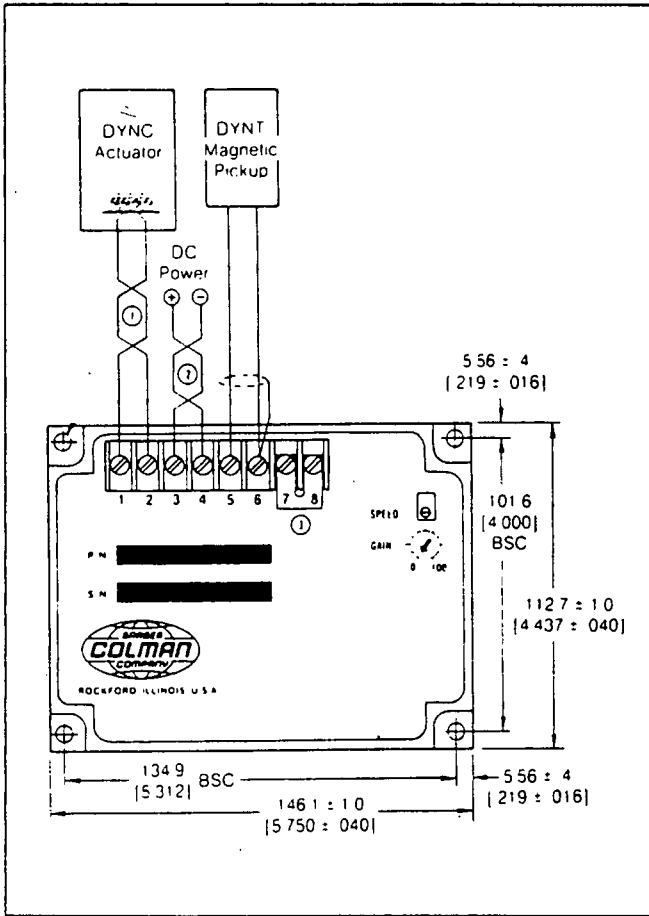
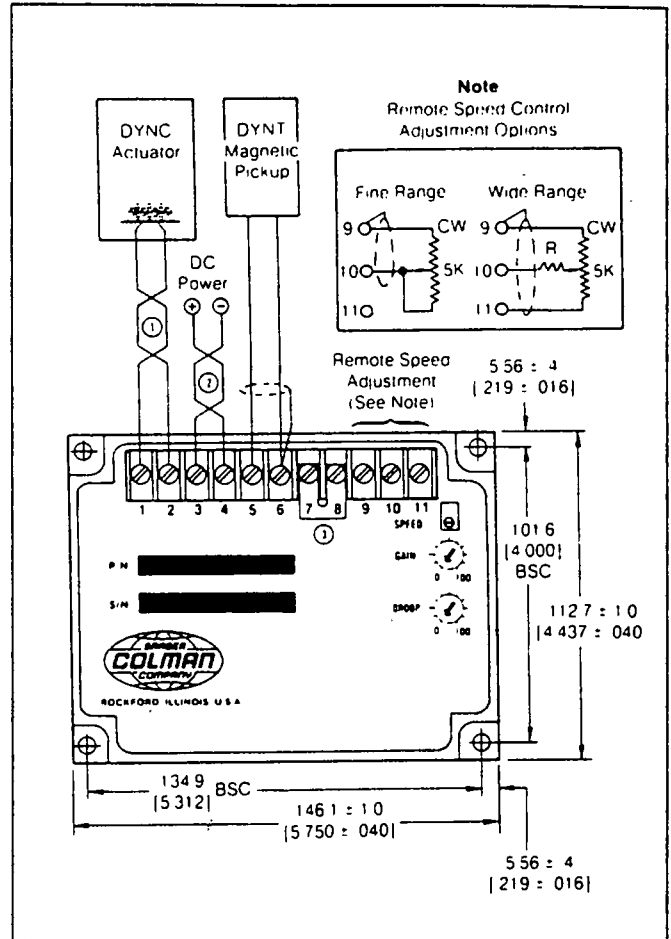

Figure 4. Typical System Without Droop Adjustment
Figure 5. System with Droop Adjustment
NOTE: Droop operation is not available on systems equipped with the controller shown in Figure 4 (no droop adjustment). The controller shown in Figure 5, however, will provide droop operation.
- A. See Figure 4. Prior to starting the engine, complete the following adjustments:
A. See Figure 5. Prior to starting the engine, set the controller potentiometers as follows: